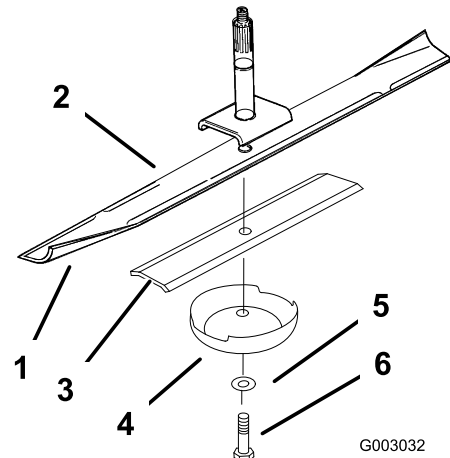
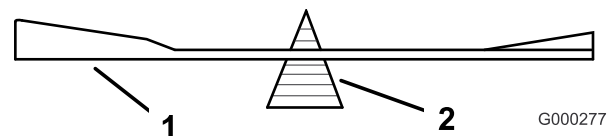

Figure 48
Figure 50
2. Remove the blade bolt, blade stiffener, washer, and blade from the spindle shaft (Figure 48).
2. Check the balance of the blade by putting it on a blade balancer (Figure 50). If the blade stays in a horizontal position, the blade is balanced and can be used. If the blade is not balanced, file some metal off the end of the sail area only (Figure 48). Repeat this procedure until the blade is balanced.
1. Install the blade onto the spindle shaft (Figure 48).
- Important:** The sail part of the blade must be pointing upward, toward the inside of the mower to ensure proper cutting (Figure 48).
2. Install the blade stiffener, flat washer and blade bolt (Figure 48).